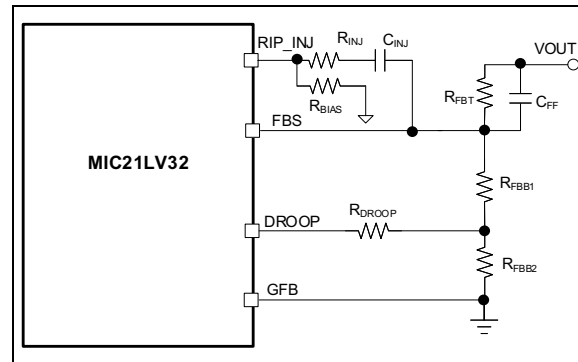

FIGURE 4-16: AVP Implementation for 5V Output with 2% AVP Range for DROOP Pin Range 0V to 600 mV.
The part of the schematic to implement the AVP for a 5V output is shown in Figure 4-16. The underlying assumption is that the current sense is done using sense resistors independent of temperature.
Step 3: The R_{FBB1} is slightly adjusted to get $V_{OUT} \cdot (1 + \epsilon)$ for $I_{OUT} = 0$ A. The result is in Figure 4-16.